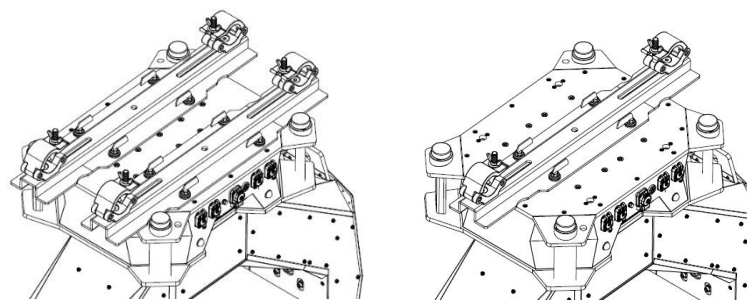

Figure 5. Truss Mount Bar options
1. Fasten one or two Truss Mount Bars and rigging clamps to the base of the fixture as described in 'Preparing to install the fixture' on page 17. If you are using only one Truss Mount Bar, fasten it along the center axis of the fixture baseplate as shown in Figure 5.